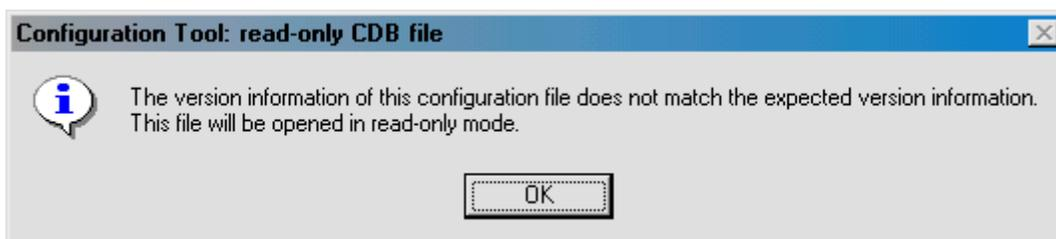

Figure 2. Configuration Tool Message
- Step 4: Code Composer Studio will inform you that the file is out of date as can be seen in Figure 2.